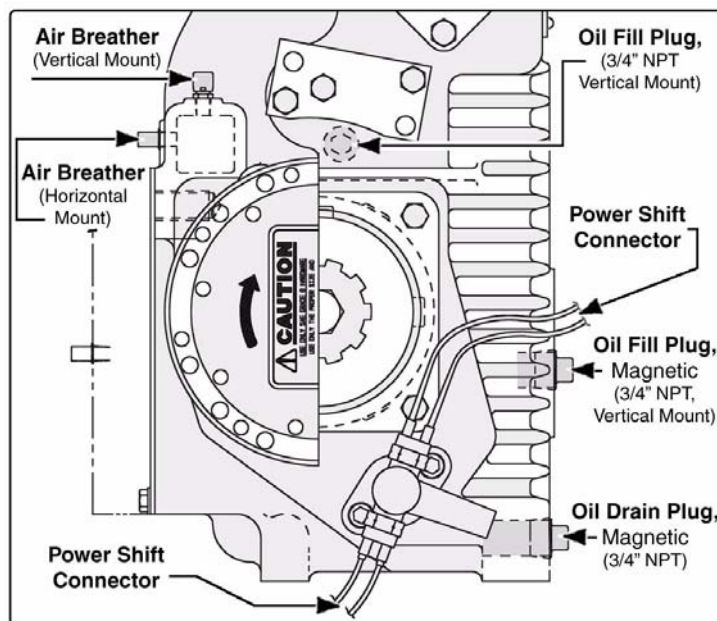

Figure 4-1: Gearbox Oil Change Plugs
2. Remove the oil fill plug, and check the oil level in the gearbox. (See Figure 4-1: "Gearbox Oil Change Plugs.")
1. Remove the drain plug (magnetic) and drain the gearbox oil into a suitable container. For container size based on gearbox capacity, see “Appendix C1: Lube and Sealant Specifications” on page 119. Also see Figure 4-1: “Gearbox Oil Change Plugs” on page 54.